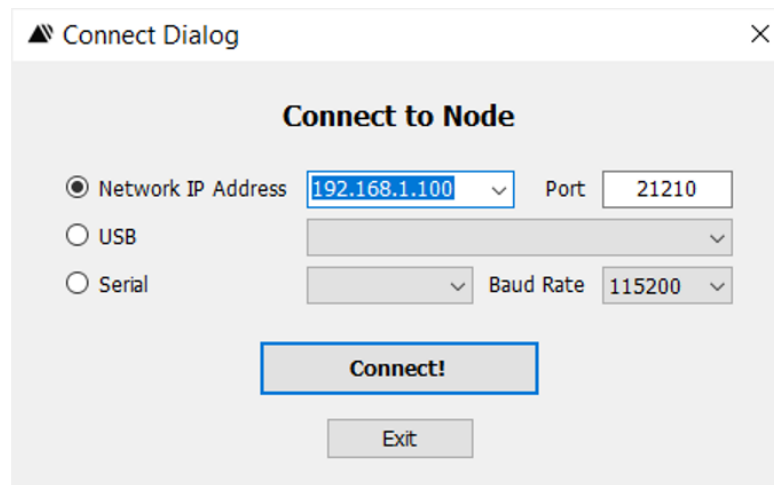

Fig. 19: CAT connect screen prior to USB hookup
1. Double click on the CAT icon. The screen shown below in **Figure 19** will appear.